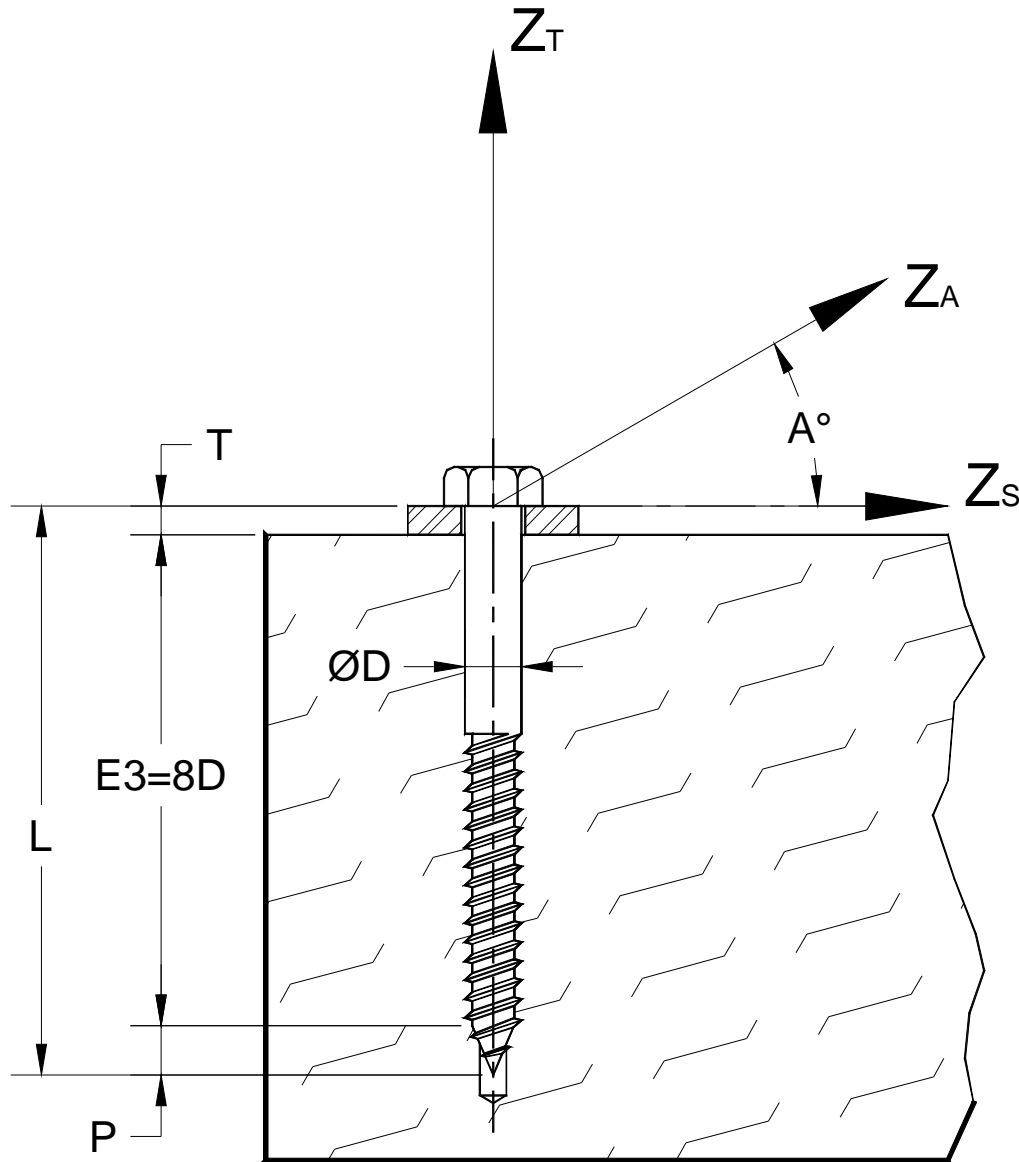

Figure A7.3-3; Typical Lag Screw in Combined Tension and Shear.
The **Basic Allowable Load Data** for **Lag Screws** with an embedment equal to eight (8) times the basic diameter, not including the point, are given in Figure A7.3-3 and Table A7.3-3. The basic allowable loads have been increased by a **Duration Factor** of 1.6 for seismic and wind loading. For an embedment of less than eight (8) times the basic diameter, the values in Table A7.3-3 may be multiplied by the ratio of the actual embedment divided by eight (8) times the basic diameter.